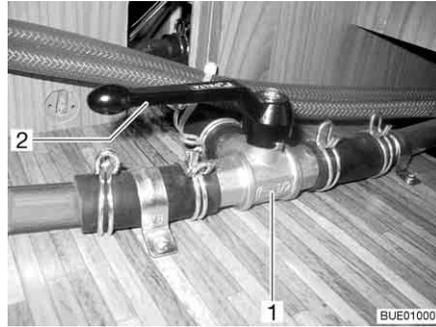

Fig. 197 3-way valve
- Set the lever (Fig. 197,2) of the 3-way valve (Fig. 197,1) parallel to the straight flow direction (Fig. 197).
- Set the lever (Fig. 197,2) of the 3-way valve (Fig. 197,1) transverse to the straight flow direction.